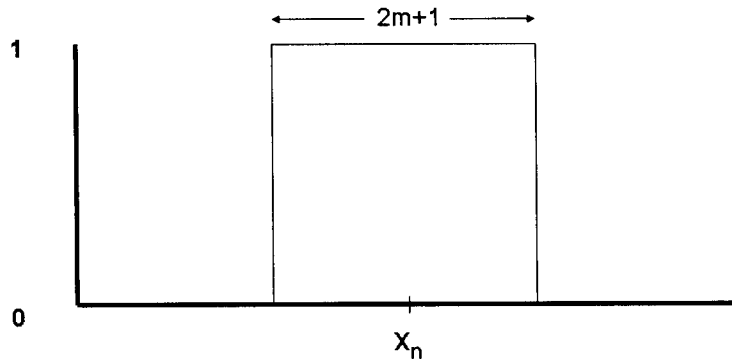

Figure 6
In a moving average smoothing filter, all the filtering coefficients  $F_i$  are equal to one. The filter simply consists of replacing the data point to be smoothed by the average of the data points in the selected interval around it. A plot of the filtering coefficients is a rectangle centered around the data point to be filtered as shown in Figure 6.
5. Move to cell d10 and enter the formula **=average(b4:b16)**. Copy the formula from cells d11 to d97. Plot the data and smooth using the chart wizard. You should see a plot like Figure 6(b). By extending the smoothing range, the data has an even greater signal to noise ratio.